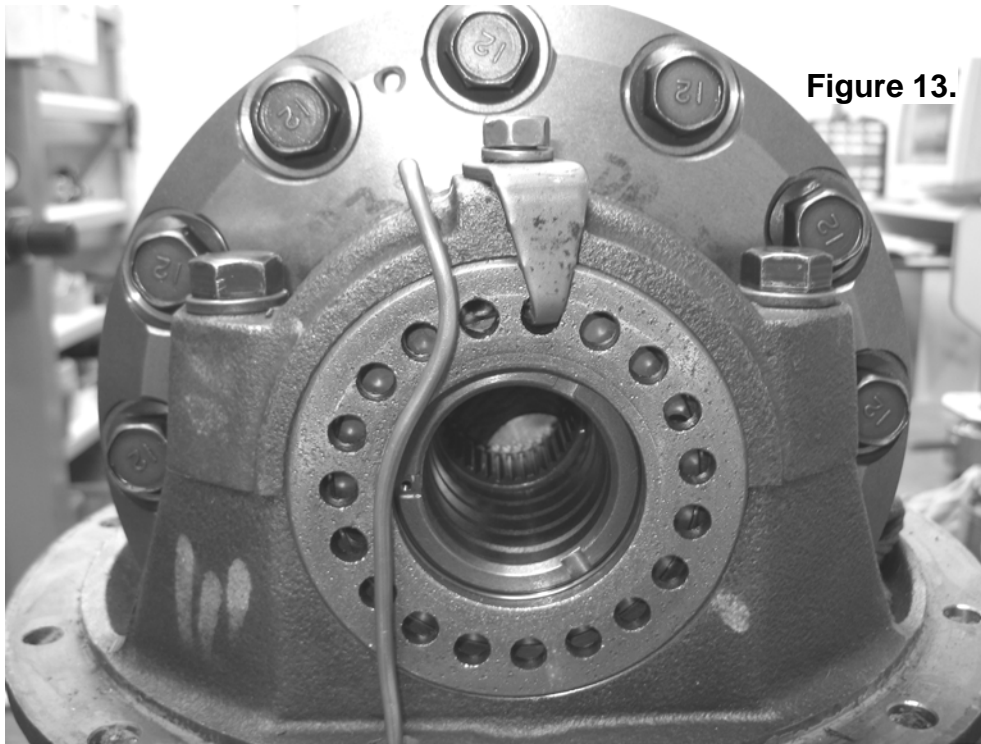

Figure 13.
- With the seal housing tube now firmly secured into the bulkhead fitting, bend the tube so that it closely follows the profile shown in Fig.13. and 14.